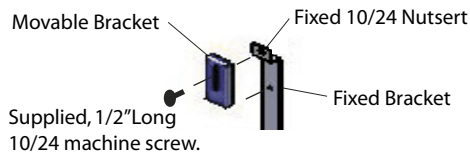

Figure 3. *Installing the Movable Brackets*
Step 4. Install the (2) two Movable Brackets. (If installed disregard this step. If not See Figure 3)
Pick up one of the brackets, using the supplied hardware, mount it into place. Slide the bolt through the bracket 'front to back', (See Figure 3), then tighten the bolt using an open end wrench or socket.